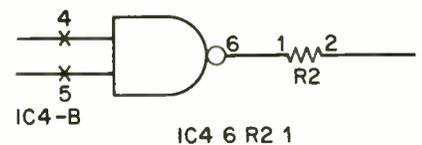

Fig. 4. Redboard format for this circuit is IC4 6 R2 1
**Redboard.** Racal-Redac's Redboard PCB design software (Fig. 4) defines